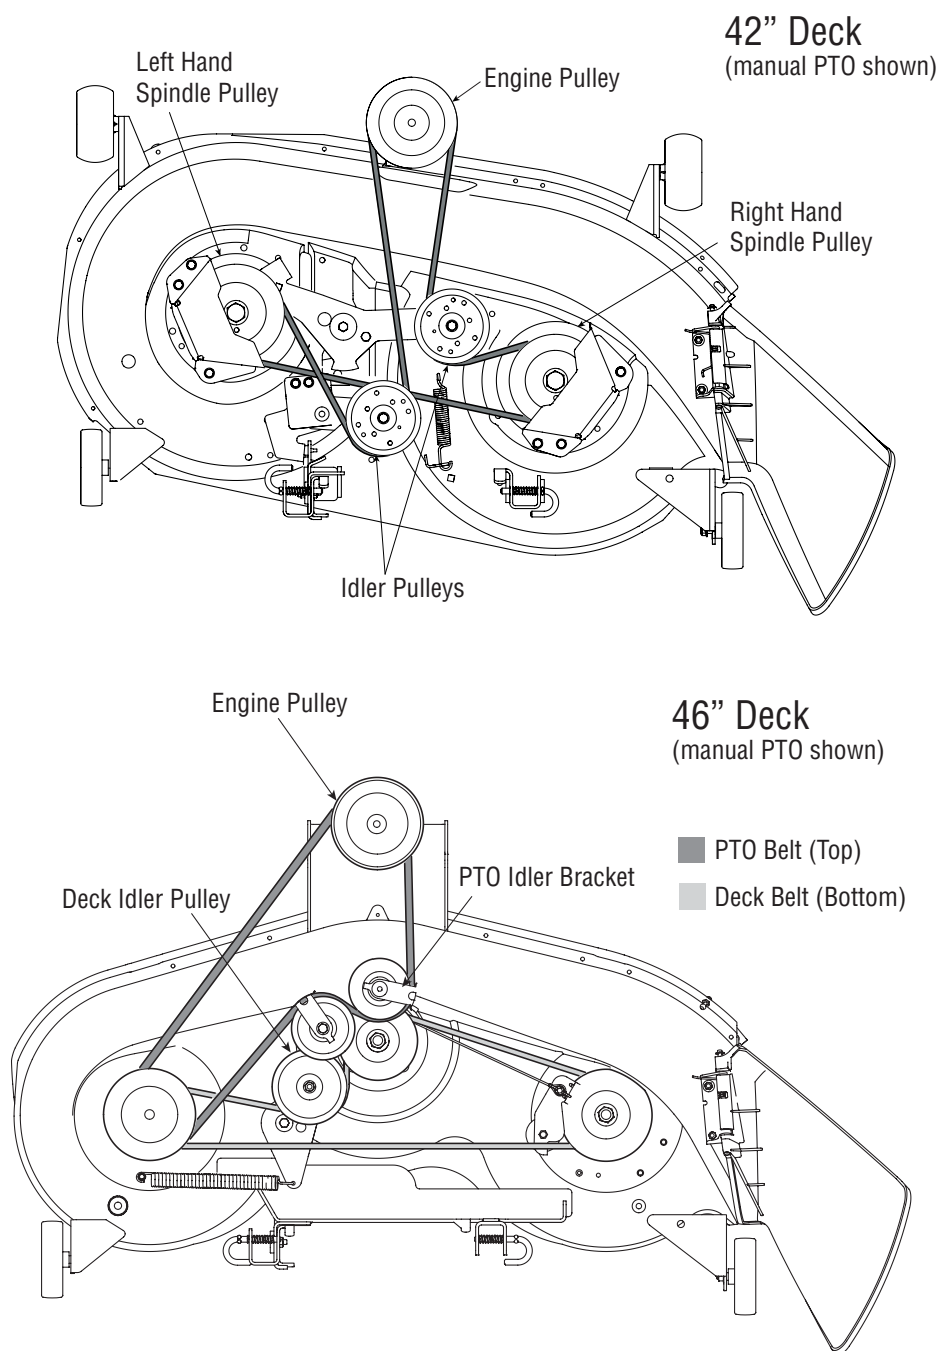

Figure 21
- Route the new belts (deck belt first) as shown in Figure 21.